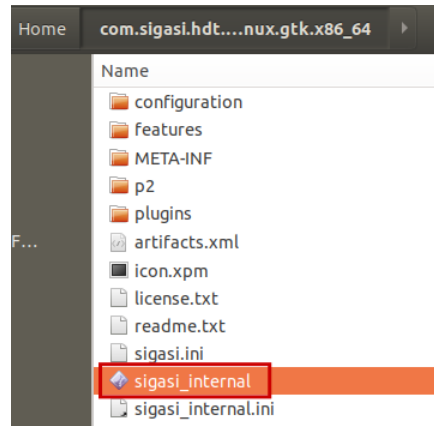

Figure 2. Open Sigasi Studio
2. Open Sigasi Studio by going into the downloaded directory and double-clicking on file `sigasi_internal` (see Figure 2).